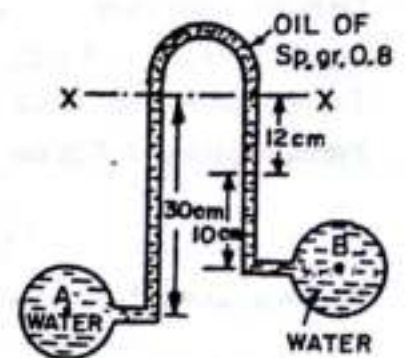

Fig. 2.22
**Problem 2.18.** Water is flowing through two different pipes to which an inverted differential manometer having an oil of sp. gr. 0.8 is connected. The pressure head in the pipe A is 2 m of water, find the pressure in the pipe B for the manometer readings as shown in Fig. 2.22.
Fig. 2.22 shows the arrangement. Taking  $X-X$  as datum line.